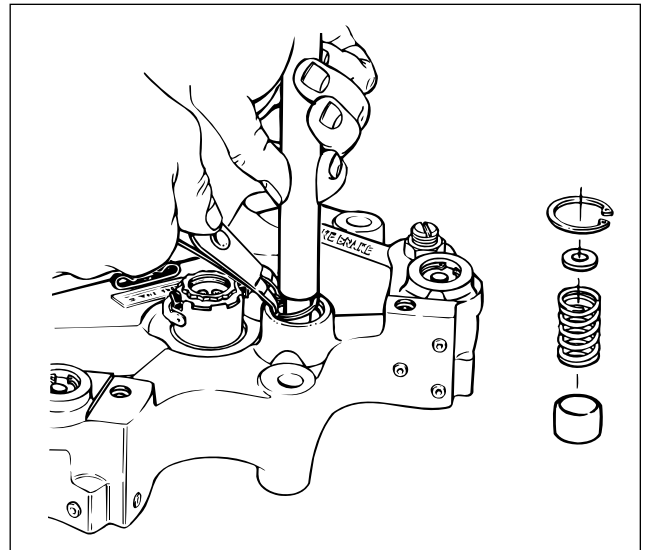

FIG. 25
1. Push down on the accumulator cover using the appropriate diameter rod and remove the retaining ring (see Fig. 25).